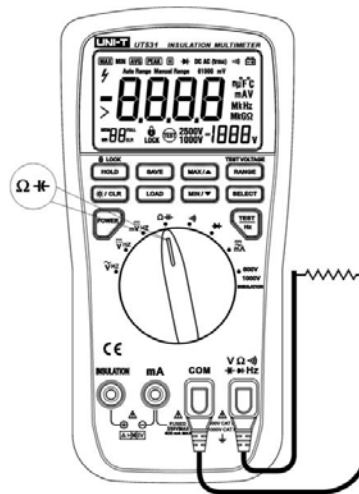

Figure 8.Measuring Resistance
- **Measuring Resistance** (see figure 8)